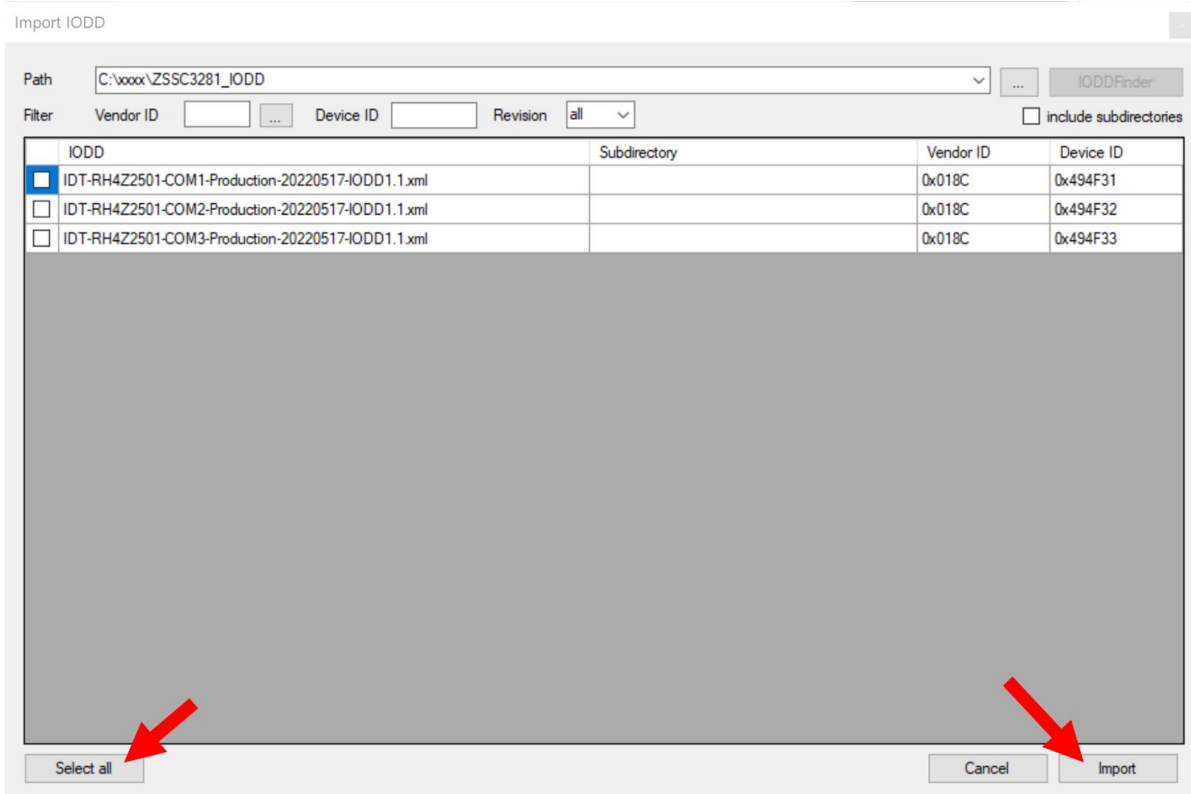

Figure 2. Importing IODD Files into TMG IO-Link device tool
- c. Select all IODD files by clicking on 'Select all' and 'Import' see Figure 2.